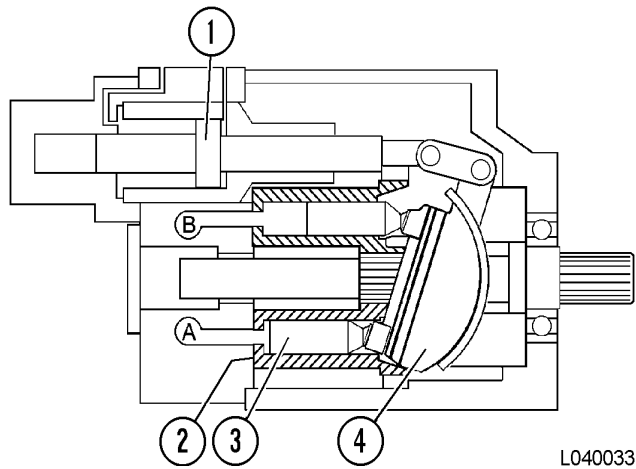

FIGURE 10-14. FULL PUMP VOLUME
Control piston (1, Figure 10-14) controls the angle of swashblock (4). When the control piston moves to the full right position, the pump is at maximum pumping capacity.